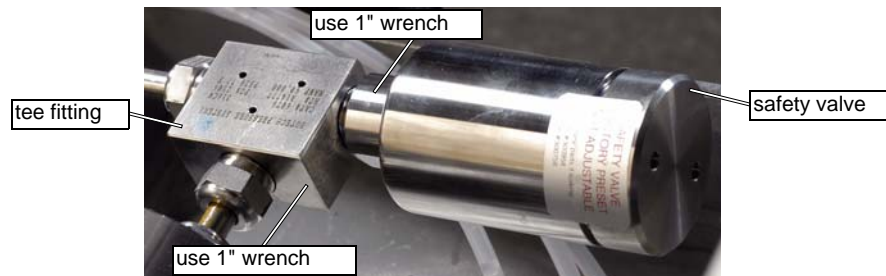

Figure 5-61: Safety Valve Removal
7. When screwed in as far as possible by hand, torque the body to the tee fitting using the 1" open end wrench on the tee fitting and the 1" crows foot and torque wrench on the Safety Valve (refer to Figure 5-61). Tighten to 50 - 75 foot pounds.